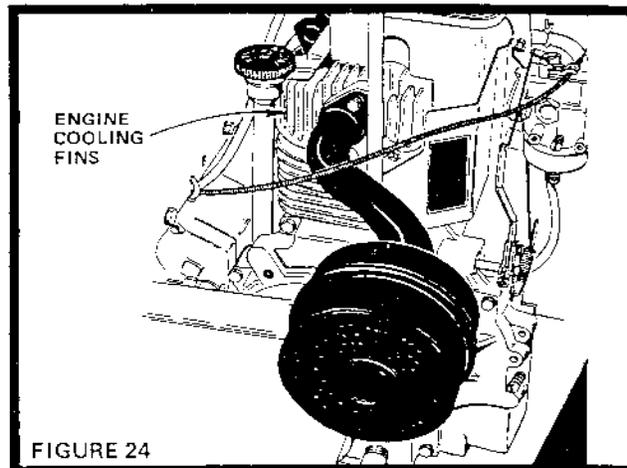

FIGURE 24
Keep Engine Cooling Fins (Fig. 24) free of dust, dirt and oil to prevent Engine damage from overheating.
- Clean Engine Cooling Fins with a stiff bristled brush or compressed air (Fig. 24).